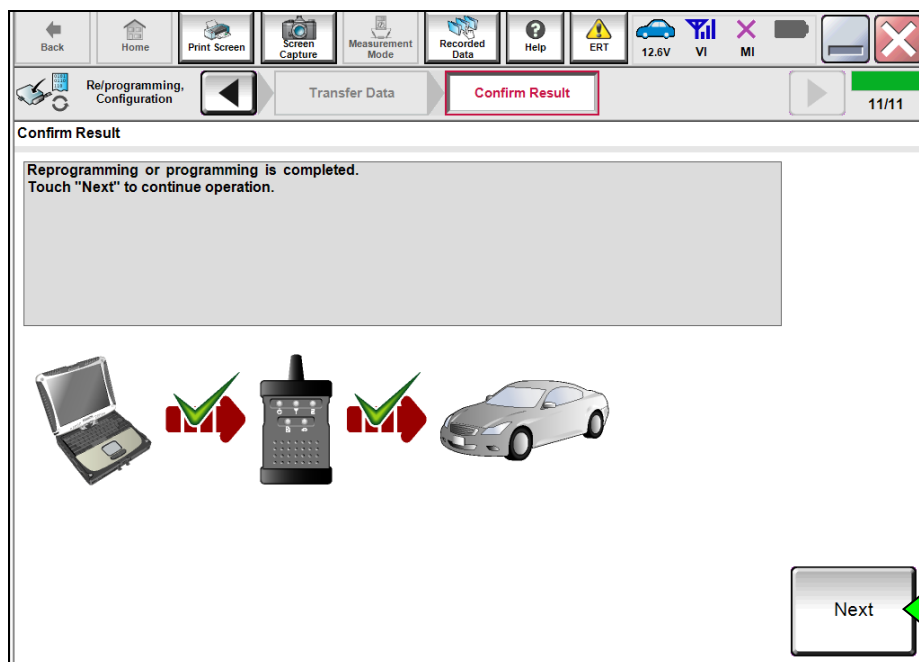

Figure 17
36. When the screen in Figure 17 displays, the reprogramming is complete.
HINT: If the screen in Figure 17 does not display (indicating that reprogramming did not complete), refer to the information on page 14.